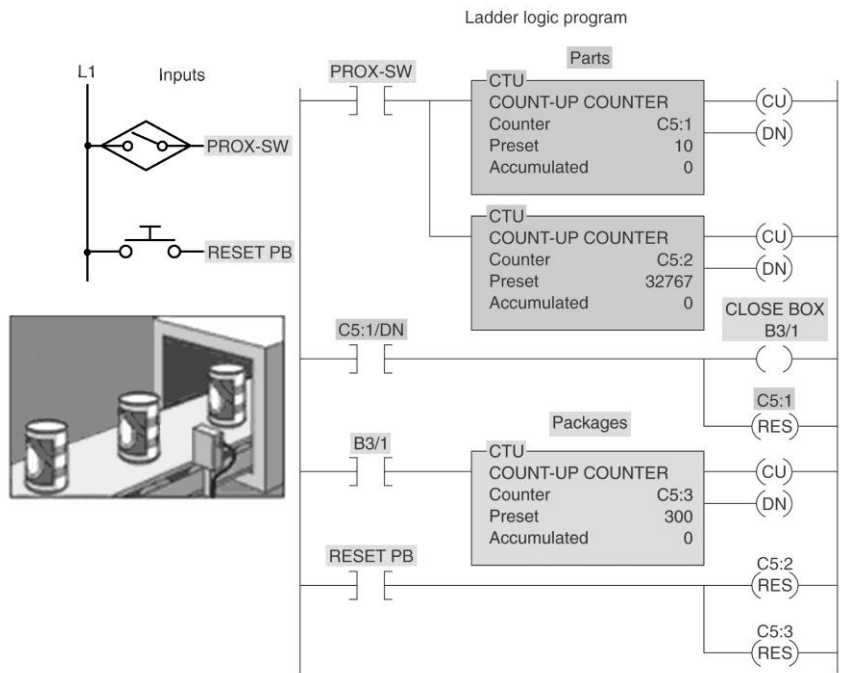

Figure 8-9 Can counting program for assignment 3.
3) The can counting program of Figure 8-9 is described in the text. Prepare an I/O connection diagram and ladder logic program for this process. Use addresses that apply to your PLC. Enter the program into the PLC, and prove its operation.